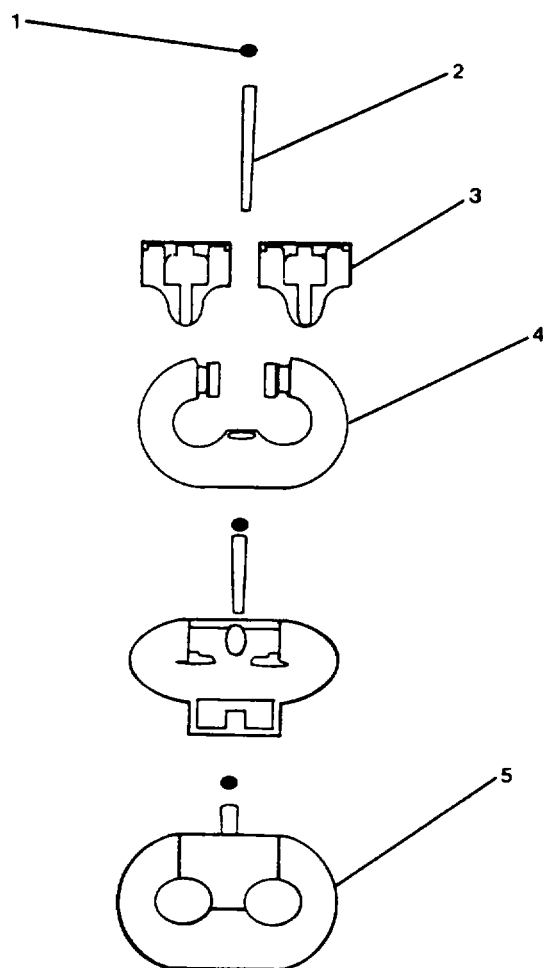

FIGURE 4-2. Detachable Link.
(3) Replace anchor if massive cracks are discovered.
c. Repair Steel Anchor Chain. (See FIGURE 4-2.)
- (1) Inspect each standard link for pitting from corrosion, cracks, or other physical damage.
- (2) Using caliper set micrometer, measure each detachable link pitting for corrosion or cracks. Outside diameter of link should not be less than 5% of 1-1/8 inch (1.069 inch).
- (3) Clean minor corrosion from any links not requiring repair. Use sand paper or solvent as required.
- (4) If anchor chain is found with corrosion, pitting, or other physical damage exceeding 5%, the entire shot (15-fathom chain length) must be replaced.
- (5) To replace a shot containing a weak link, perform the following action
- (a) Remove head pellet plug (1).
- (b) Drive out tapered pin (2).
- (c) Separate coupling plates (3).
- (d) Remove C-Link (4) from standard link anchor chain.